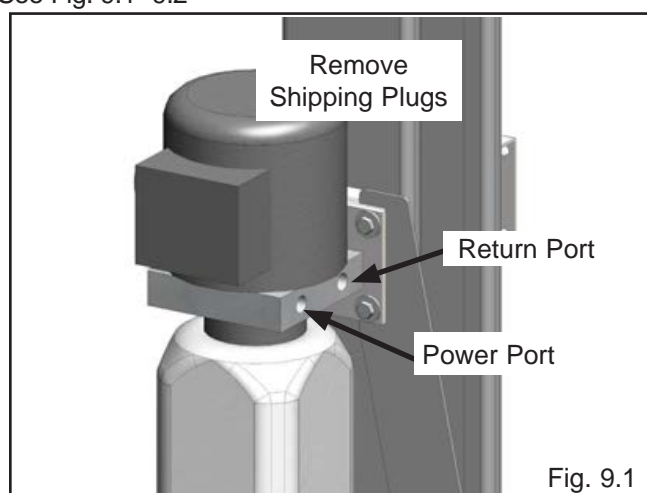

Fig. 9.1
1. Install the 90-degree Hydraulic Fitting to the POWER PORT and the 90° Air Line Compression Fitting to the RETURN PORT of the Power Unit and connect the Hoses as described below. It will be necessary to remove the shipping plugs from both ports prior to installing the Fittings. On the pipe thread side of the fitting it is recommended to use Teflon tape or pipe sealer. DO NOT USE TEFLON TAPE on the JIC flared end. It will be necessary to remove the shipping plugs from both ports prior to installing the fittings. (See Fig. 9.1 -9.2)